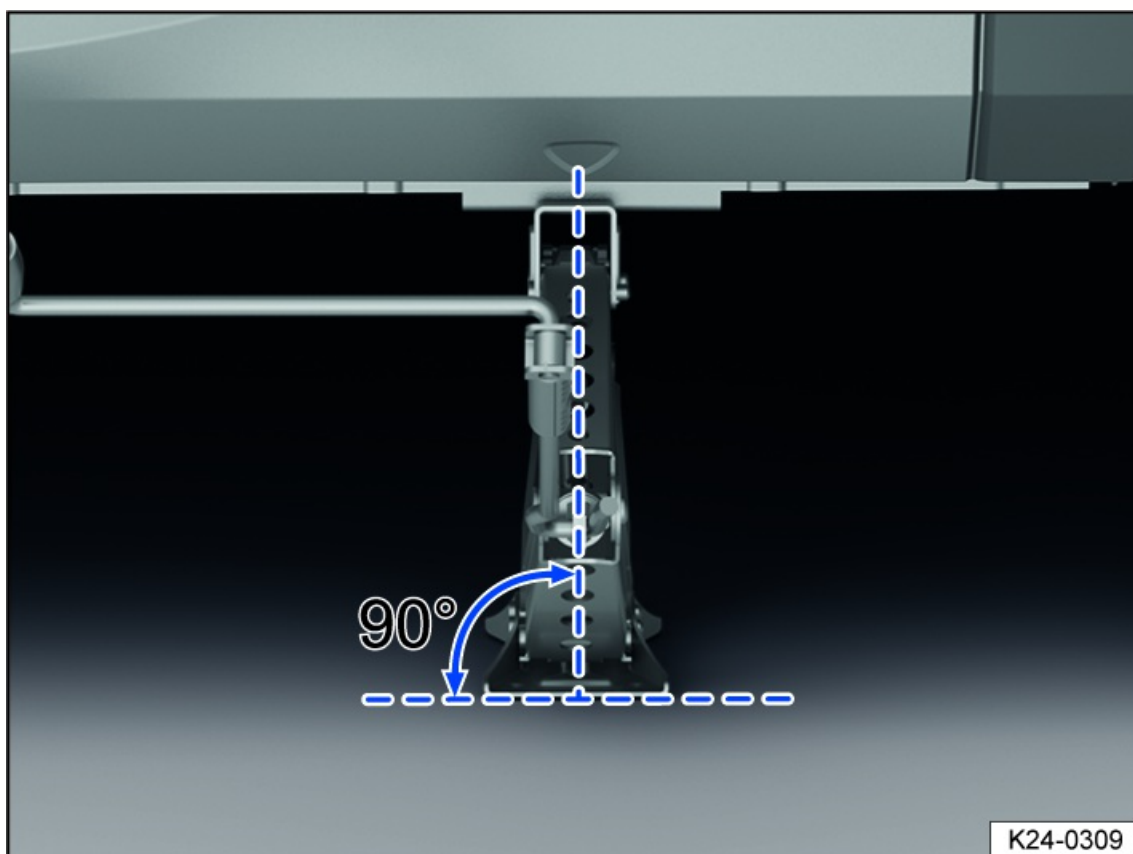
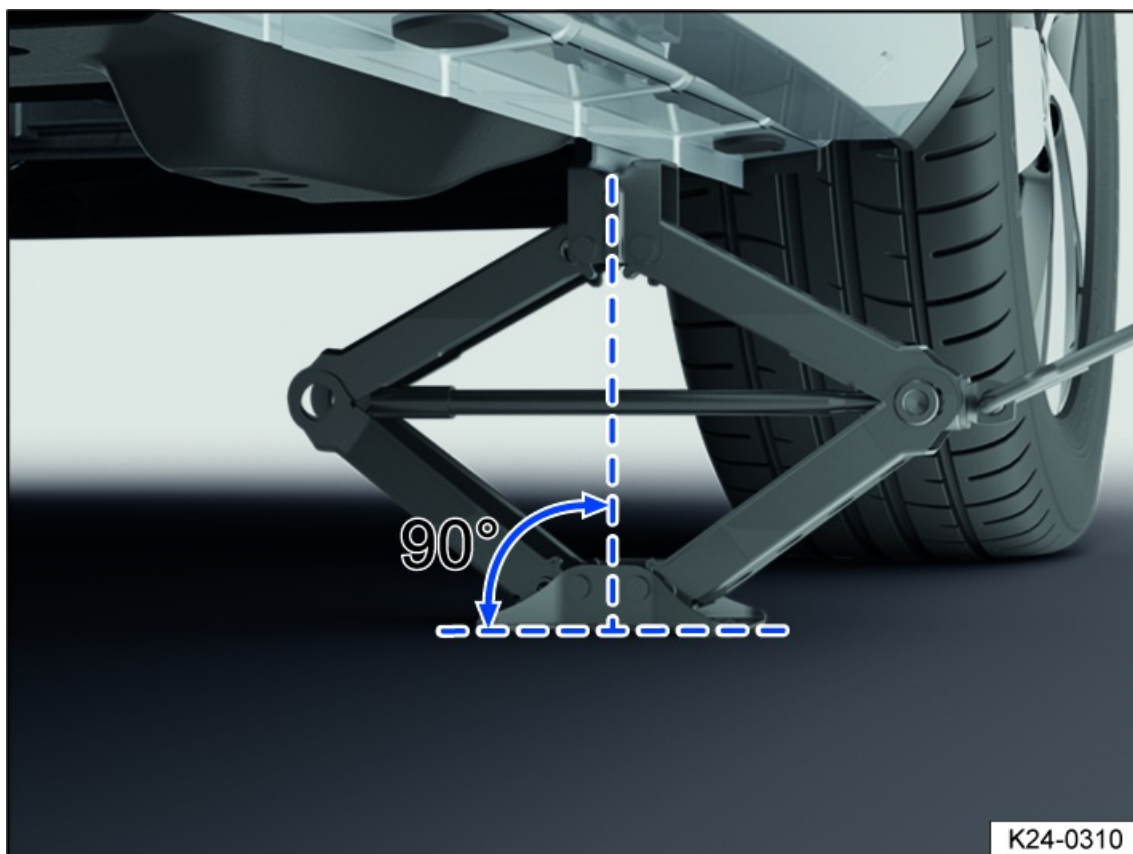

Fig. 176 Correct jack setup.
Fig. 177 On the left side of the vehicle at the rear: jack in position.
4. Make sure the entire base of the jack is seated securely on the ground and that the base of the jack is located exactly directly below the lift point fig. 176 and fig. 177.
5. Straighten the jack and continue cranking the claw on the top of the jack upward until the claw is positioned on the jacking point under the vehicle fig. 177.
- Only place the vehicle jack at the lift points described. The bracket on the vehicle jack must firmly grip the sill *fig. 177*.